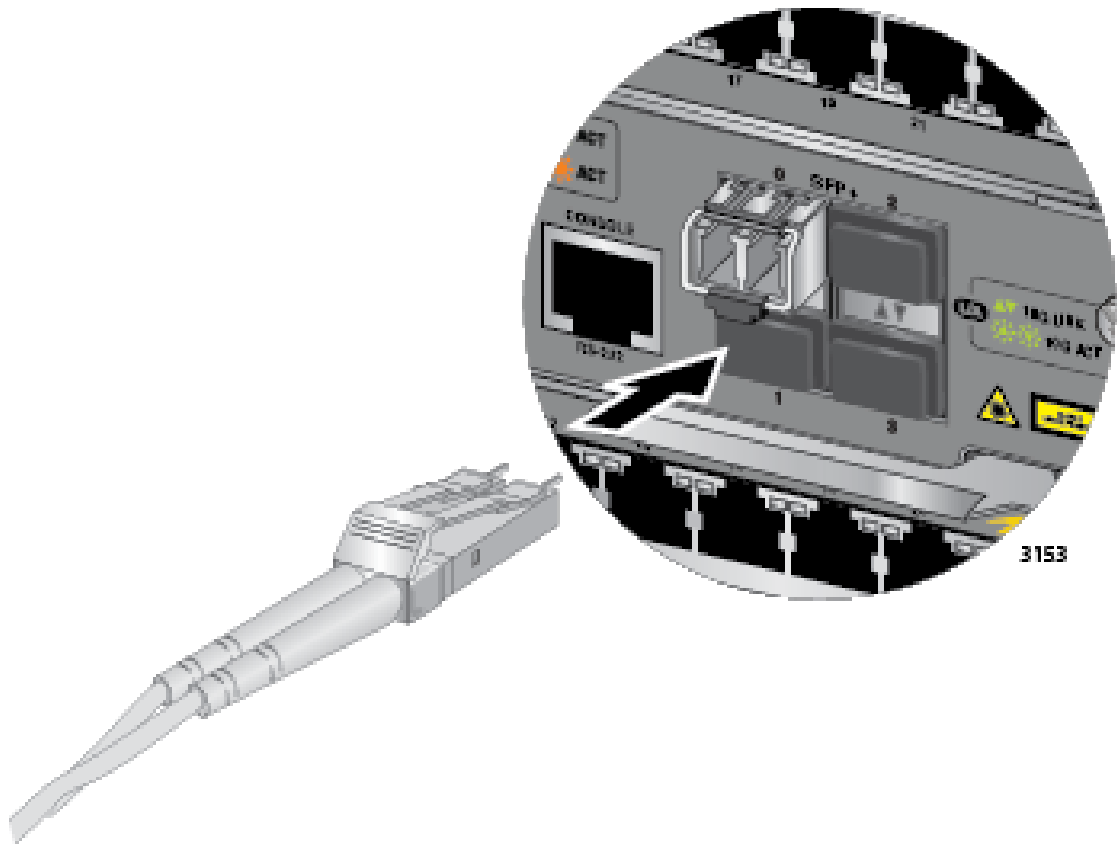

Figure 108. Attaching a Fiber Optic Cable to an SFP or SFP+ Transceiver in the AT-SBx31CFC960 Controller Fabric Card
5. Connect the fiber optic cable to the port on the transceiver, as shown in Figure 108 on page 171. The connector should snap into the port.